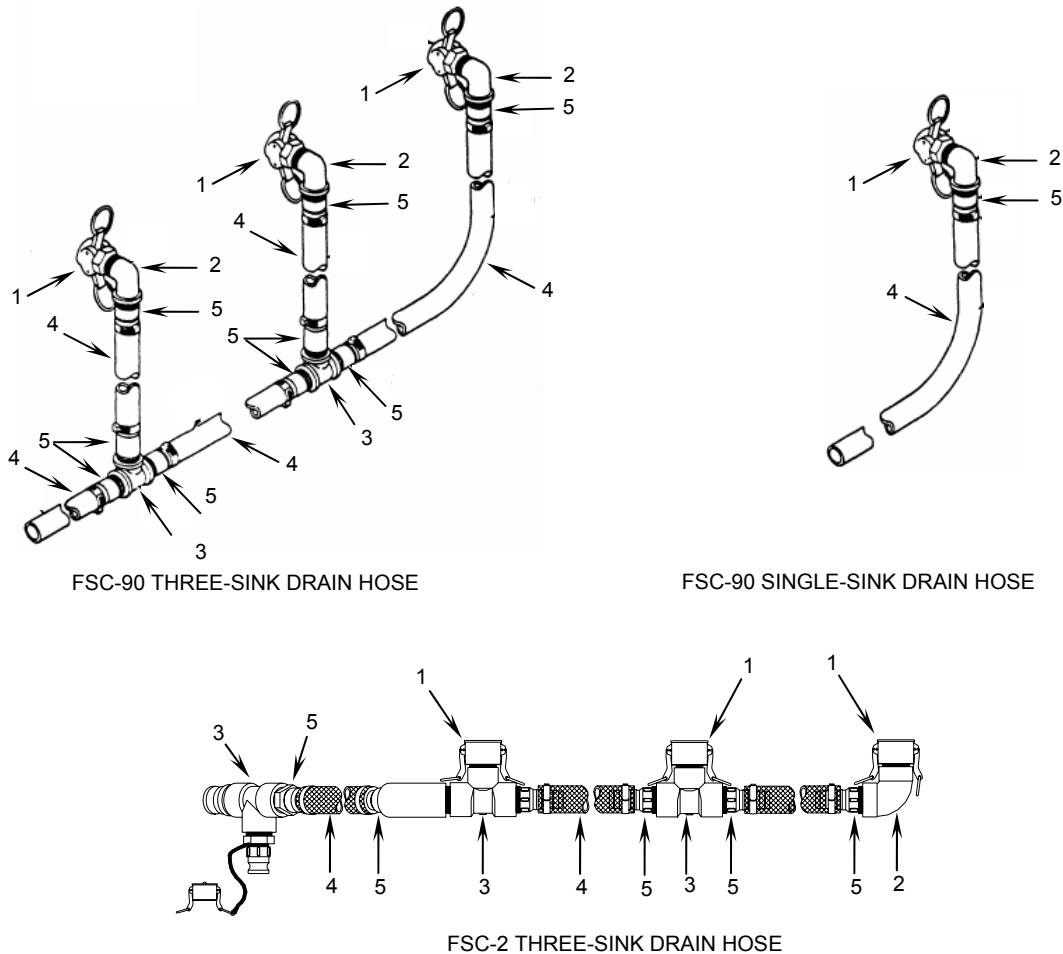

Figure 2. Replacing Sink Drain Hose Couplings, Elbows, Adapters or Tees.
1. Unscrew coupling (**Figure 2, Item 1**) from elbow (**Figure 2, Item 2**) or tee (**Figure 2, Item 3**).
2. Remove hoses (**Figure 2, Item 4**) per steps 1, 2, and 3 in the previous procedure, Remove and replace sink drain hoses.
3. Unscrew adapter (**Figure 2, Item 5**) from elbow (**Figure 2, Item 2**) or tee (**Figure 2, Item 3**).
6. Thread adapters (**Figure 2, Item 5**) into tee (**Figure 2, Item 3**) and elbow (**Figure 2, Item 2**).
7. Thread coupling (**Figure 2, Item 1**) onto elbow (**Figure 2, Item 2**).